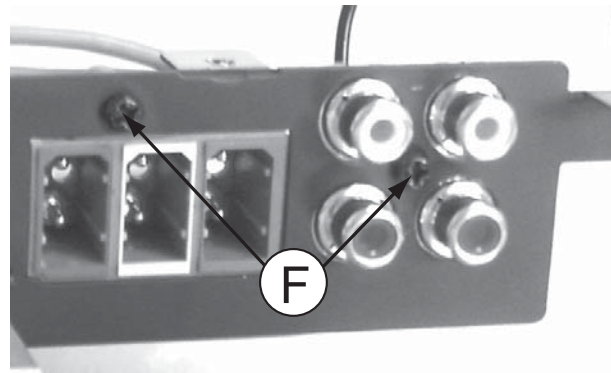

Figure 7
- 1) Loosen 2 screws "F" at the main PCB bracket to remove AUX PCB as shown in figure 7.